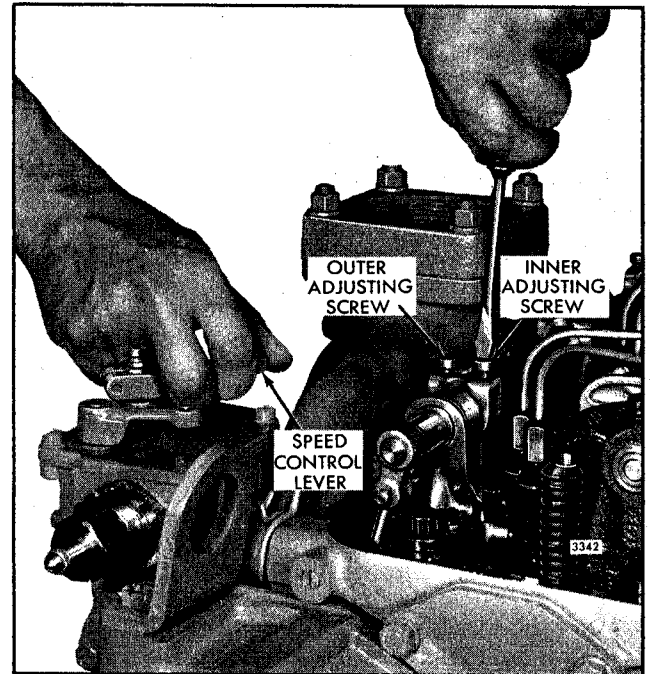

Fig. 2 - Positioning the Rear Injector Rack Control Lever
Adjust the rear injector rack control lever (Fig. 2) first to establish a guide for adjusting the remaining injector rack control levers.
3. Move the speed control lever to the *full-fuel* position as shown in Fig. 2. Turn the inner adjusting screw down on the rear injector rack control lever until a step-up in effort to turn the screw driver is noted. This will place the rear injector rack in the *full-fuel* position. Turn down the outer adjusting screw until it bottoms lightly on the injector control tube. Then, alternately tighten both the inner and outer adjusting